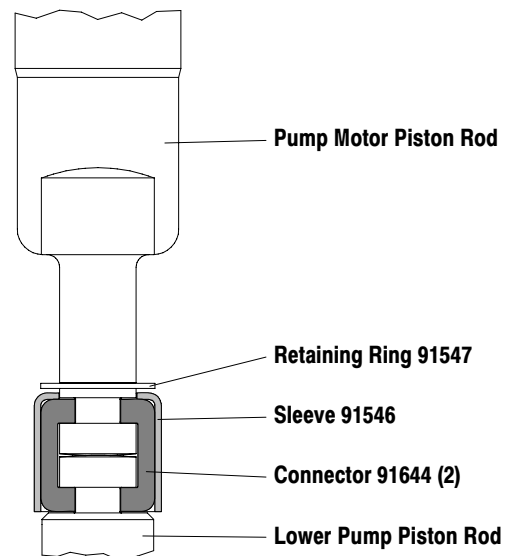

Figure 2
- Using e-ring pliers, slide the retaining ring up far enough to allow the sleeve to move upward and release the two connectors (see figure 2).